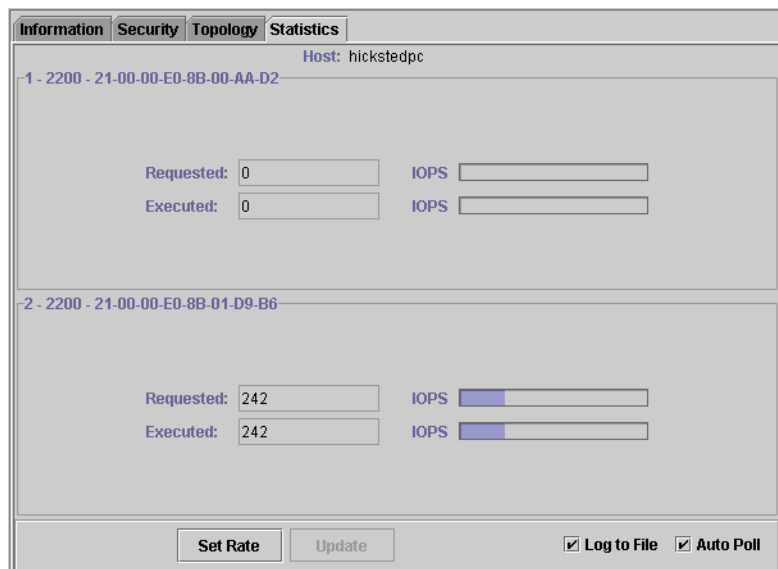

Figure 9-3. Host Statistics Tabbed Page
2. Select the **Statistics** tab. The **Host Statistics** tabbed page displays (see figure 9-3).
1. From the **Host Statistics** tabbed page (see figure 9-3), select the **Log to File** check box. See section 9.1.3.1 for information on accessing the **Host Statistics** tabbed page.